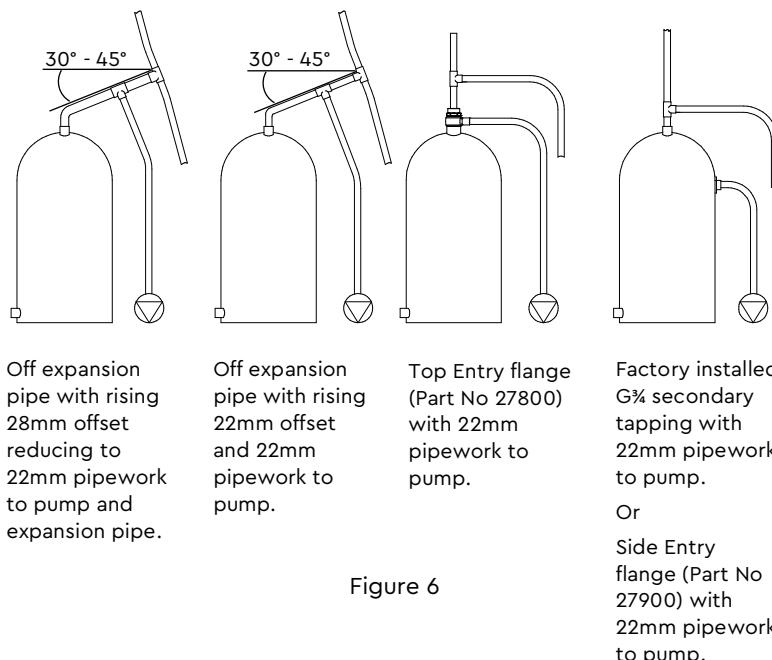

Figure 6
Hot water supply: The pump **must be supplied** with a **dedicated feed** direct from the hot water cylinder or storage tank, ensuring an air free connection to the pump. We recommend the use of either the side entry flange (SE) or a top entry flange (TE) see Figure 6.